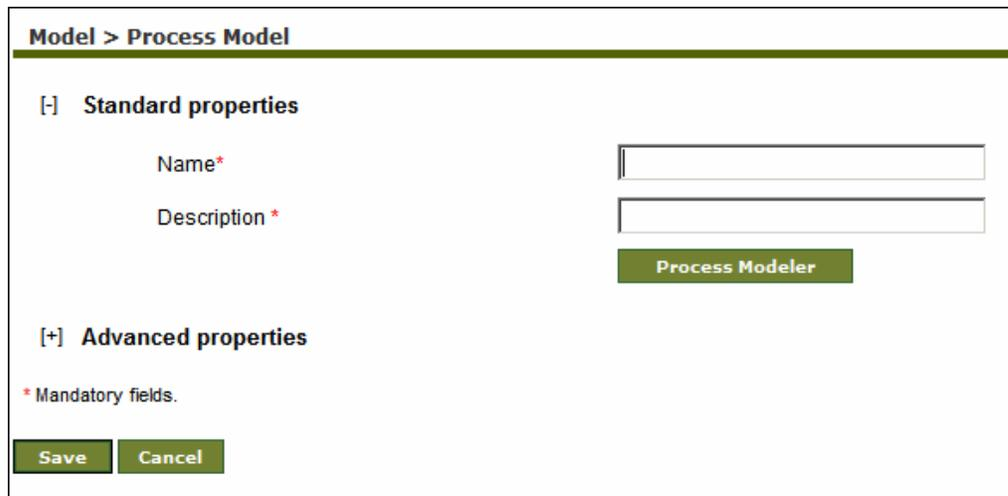

Figure 7.2: Create Process Model
3. Click **New** link. This displays the Create Process Model screen (see Figure 7.2).